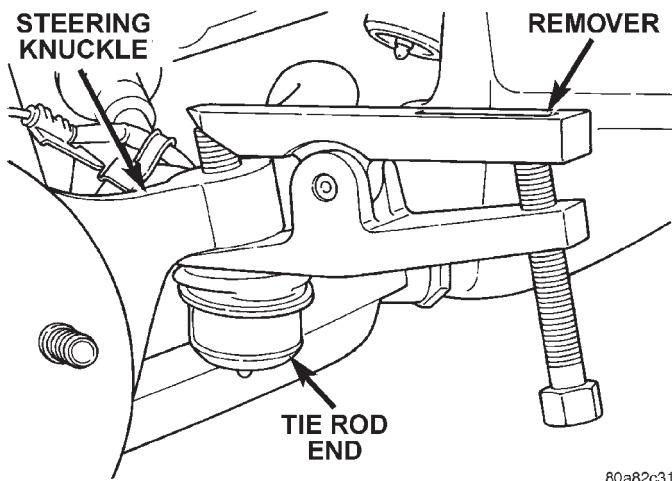

Fig. 4 Tie Rod End
- (1) Raise and support vehicle.
- (2) Remove wheel and tire assembly.
- (3) Remove brake caliper, rotor, shield and ABS wheel speed sensor if equipped. Refer to Group 5 Brakes.
- (4) Remove front driveshaft, refer to Group 3 Differential and Driveline.
- (5) Remove tie rod end cotter pin and nut. Separate the tie rod from the knuckle with Remover MB-991113 (Fig. 4).
- (6) Support the lower suspension arm with a hydraulic jack and raise the jack to unload the rebound bumper.